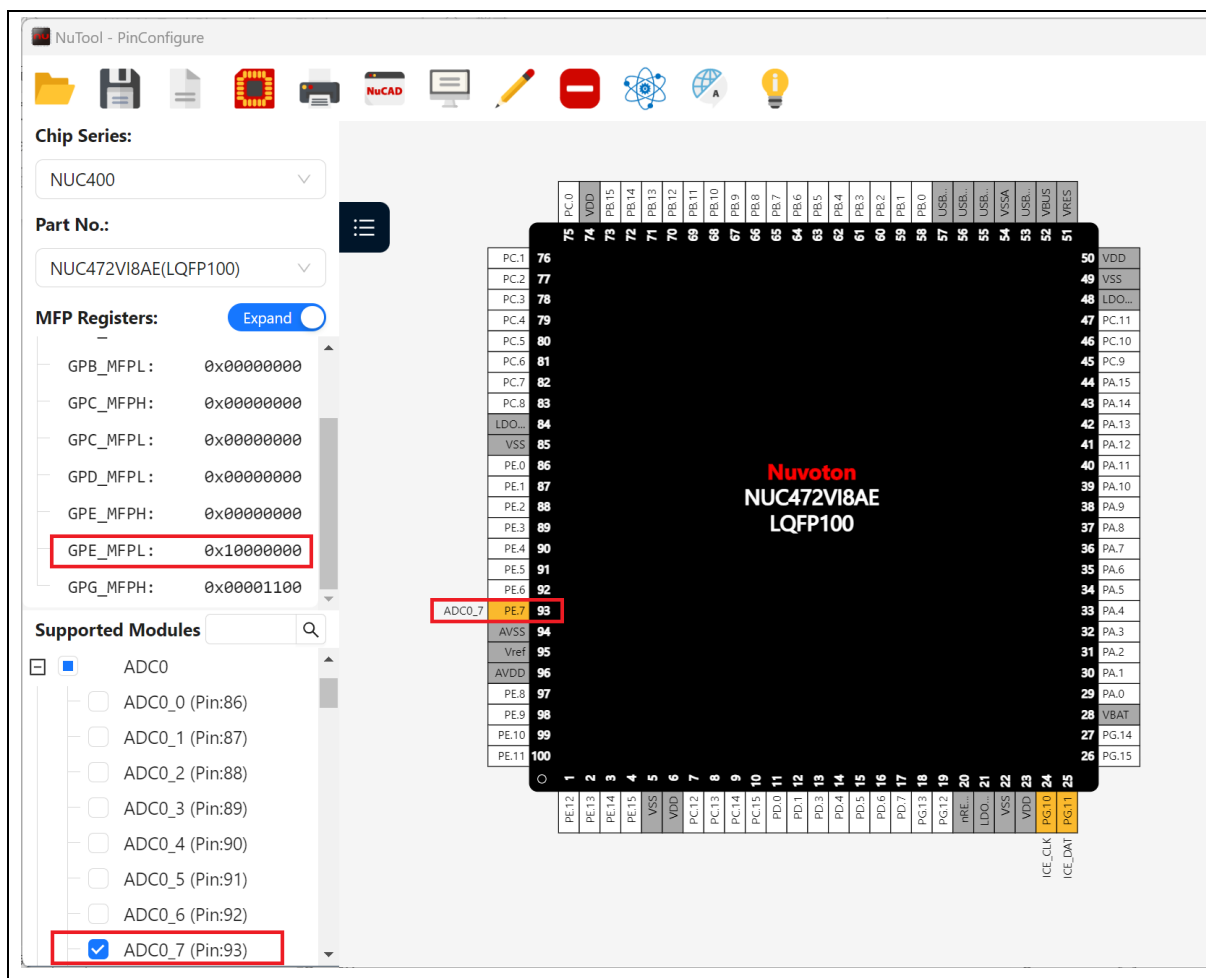

Figure 4-9 Results of Configuring ADC0\_7 by the Individual Pin
| Figure 4-9 Results of Configuring ADC0_7 by the Individual Pin ..... | 13 |
2. Move the mouse cursor into the list and select the expected GPIO function and click on it. Configuring by the individual pin is accomplished. At the same time, the TreeView and the value of the MFP register will be updated correspondingly (referring to Figure 4-9).